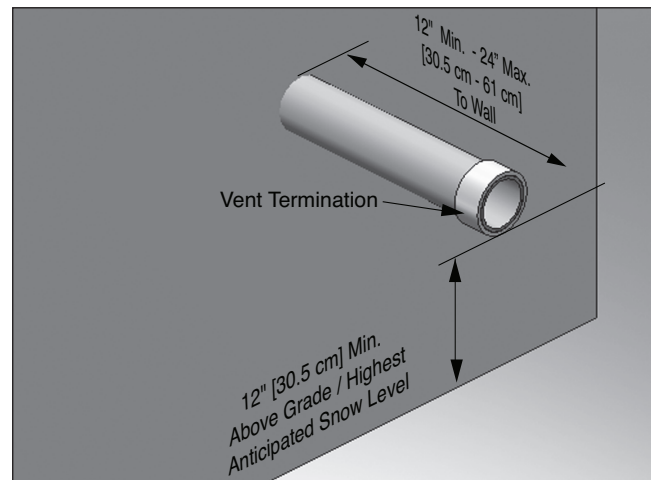
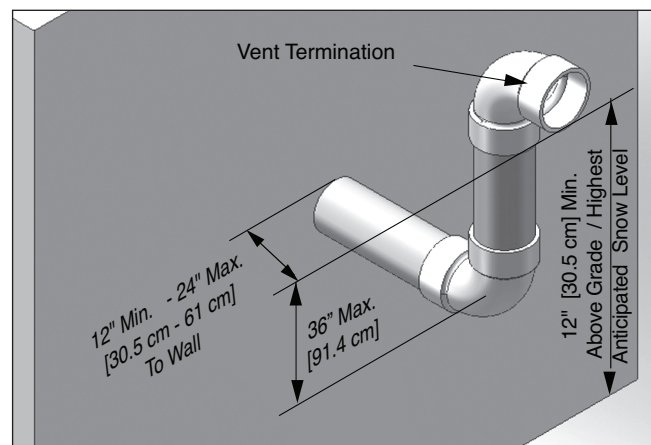
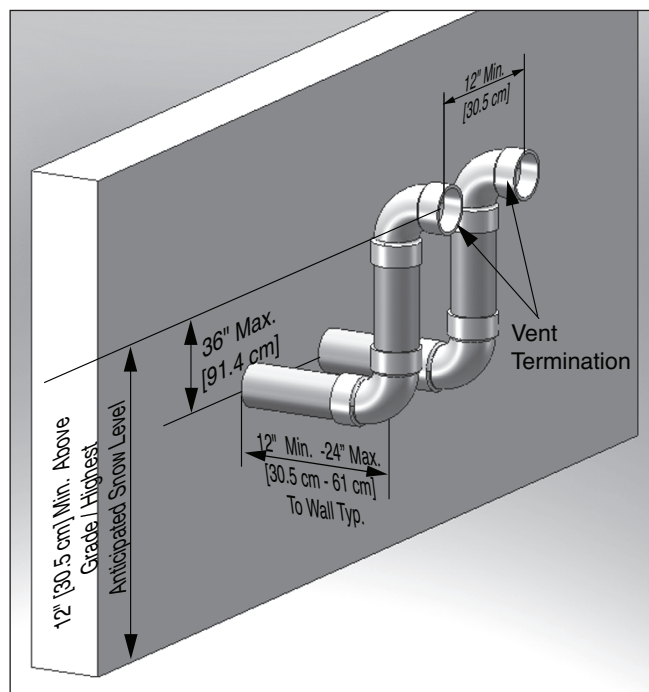

Fig. 17 - Category IV - Sidewall Termination of Vent Pipe
Fig. 18 - Category IV - Sidewall Snorkel Termination of Vent Pipe
Fig. 19 - Category IV - Sidewall Termination of Multiple Prestige Boilers
- Using a coupling as shown in *Fig. 17*.
- Using a 90° elbow as shown in *Fig. 18*.
3. Locate the vent pipe penetration to provide clearances as described in *Fig. 17* and *Fig. 18 on page 28*.
- Using a coupling as shown in *Fig. 17 on page 28*.
- Using a 90° elbow as shown in *Fig. 18 on page 28*.
Do not extend the vent pipe outside the sidewall beyond the dimensions shown in *Fig. 17* and *Fig. 18 on page 28*. Extended exposure of the vent pipe could cause condensate to freeze and block the vent pipe, resulting in substantial property damage, serious injury, or death.
2. Each vent termination must be a minimum 12" [30.5 cm] from the adjacent termination for installations in the U.S. as shown in *Fig. 19 below*. For installations in Canada, provide clearances as required by CAN/CSA B149.1.
- *Fig. 19 shows one option for vent terminations of multiple PRESTIGE boilers. Either termination option shown in *Fig. 17* or *Fig. 18 on page 28* can be used for multiple PRESTIGE boilers. The 12" [30.5 cm] minimum distance between centerlines of the vent piping must be maintained for any chosen option.*
- *Reference *Fig. 17* and *Fig. 18 on page 28* for vent termination dimensions for each unit installed in a multiple installation.*